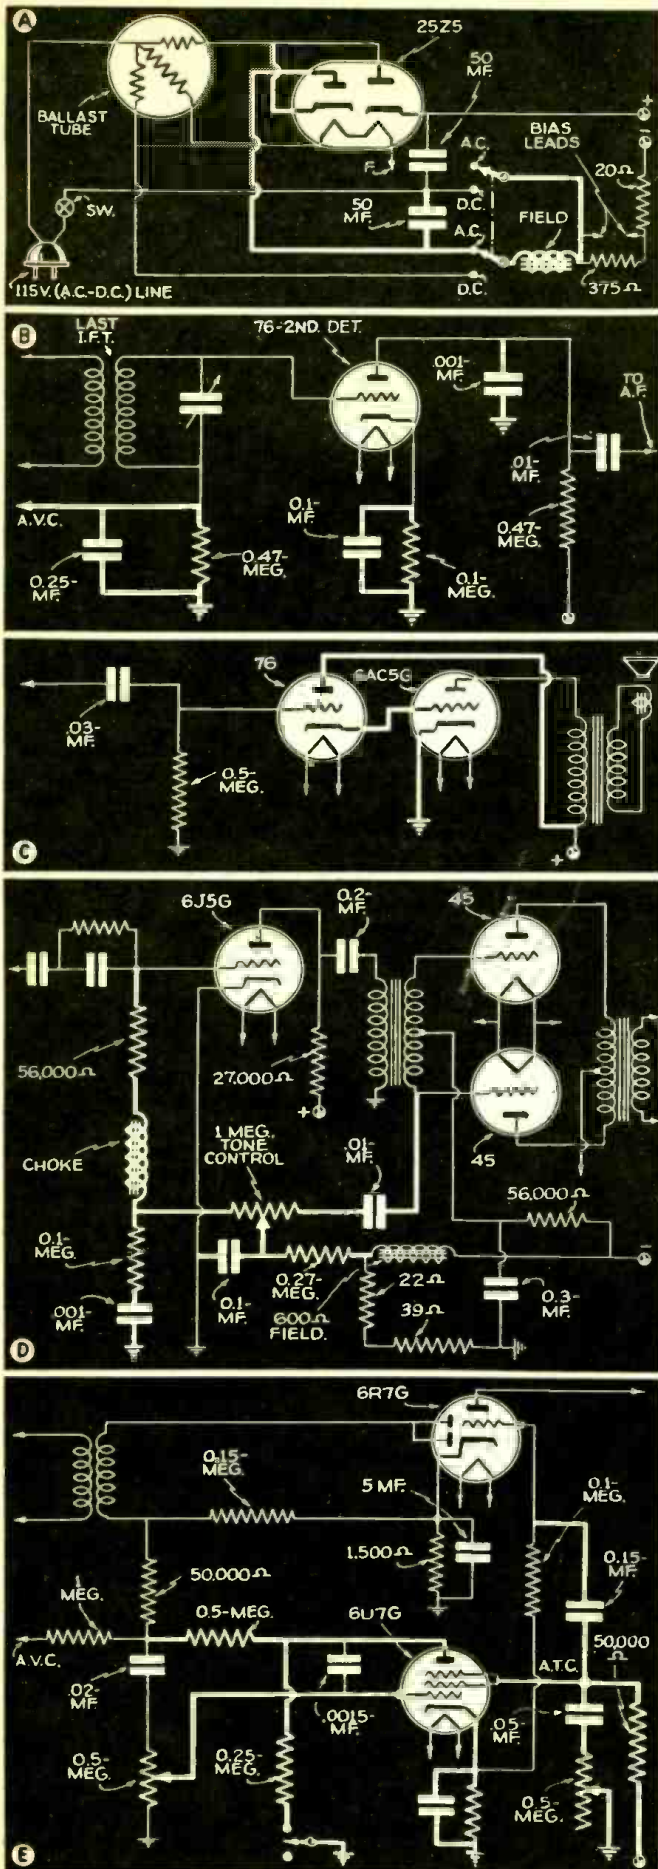

Fig. 1. The heavy lines in the circuits are the points discussed in the text.
Fig. 1. Service Men are equipped to modify older sets to receive WQXR (New York), KPMC (California), KXBY (Missouri), and WBRY (Connecticut). As shown, the job may entail (A) trimming for higher frequencies, (B) carefully removing turns from coils, or (C) shifting the I.F. to a slightly different frequency.